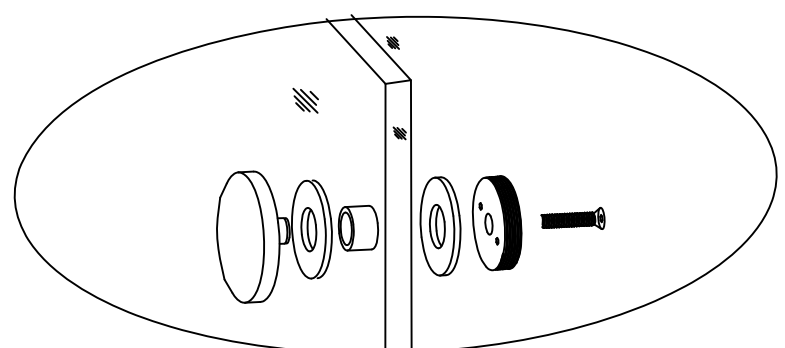

Fig. 11
11. Next assemble the stainless steel fitting and glass connector parts to top hole in Return Glass Panel (23), following the assembly sequence shown in Fig.11. The stainless steel fitting should be positioned to the inside of Return Glass Panel (23) when complete.